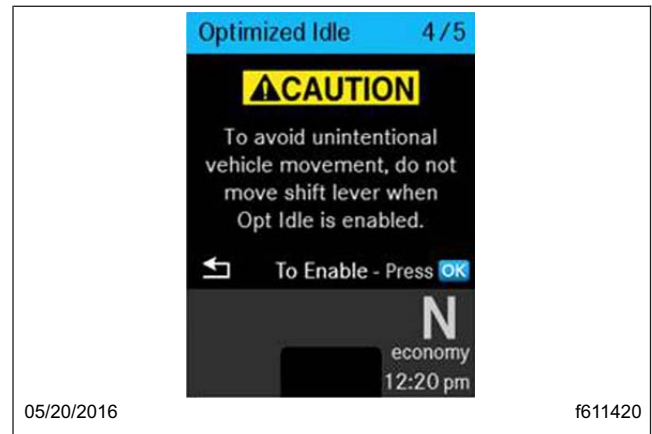

Fig. 13.2, Optimized Idle Start Screen
5. Navigate to the Optimized Idle screen on the driver display. See Fig. 13.2.